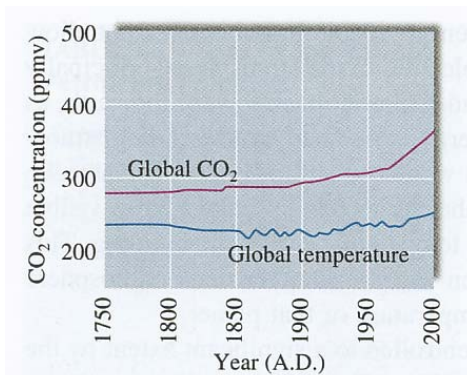

FIGURE 6.13
- **Carbon Dioxide:** The carbon dioxide content of the atmosphere shows only small, short-term fluxuations. But what about the long run? Figure 6.13 shows a significant long-term increase in the CO₂ content of the atmosphere since 1750. This increase is thought to have come about from humankind's use of fossil fuels starting at the dawn of the Industrial Revolution around 1750.